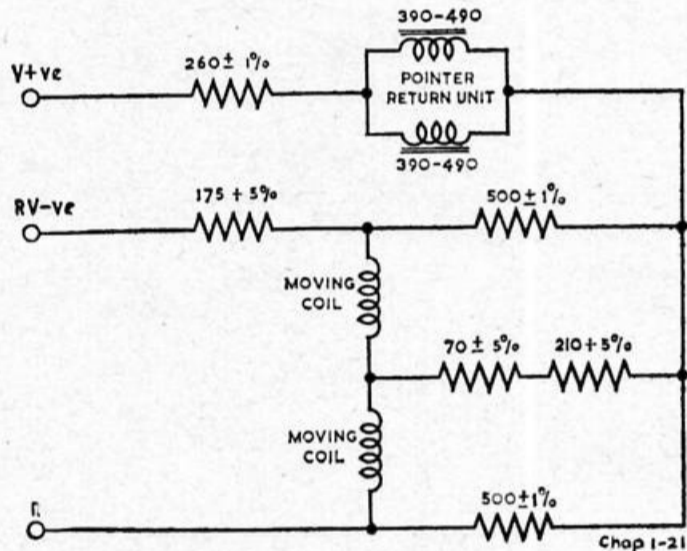

Fig. 2. Circuit diagram
2. The circuit diagram is shown in fig. 2 and connections are made via three terminal screws V+ve, RV-ve and R.